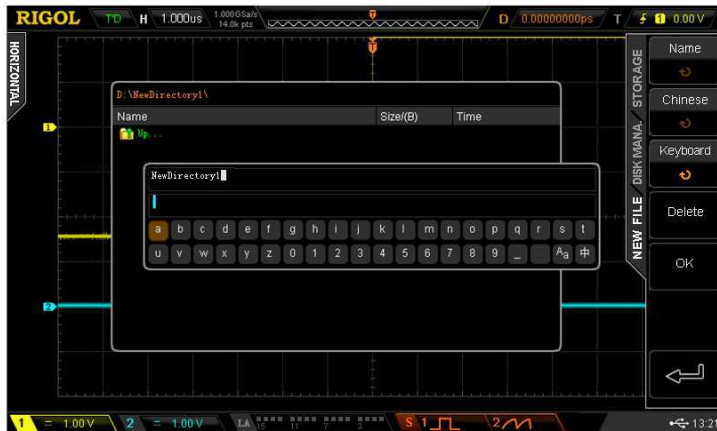

Figure 14-5 External Disk (To Create a New File)
- 4) After the storage position is selected, press **New File** to turn on the interface as shown in Figure 14-5. Refer to the descriptions in “**To Create a New File or Folder**” to create a new file.